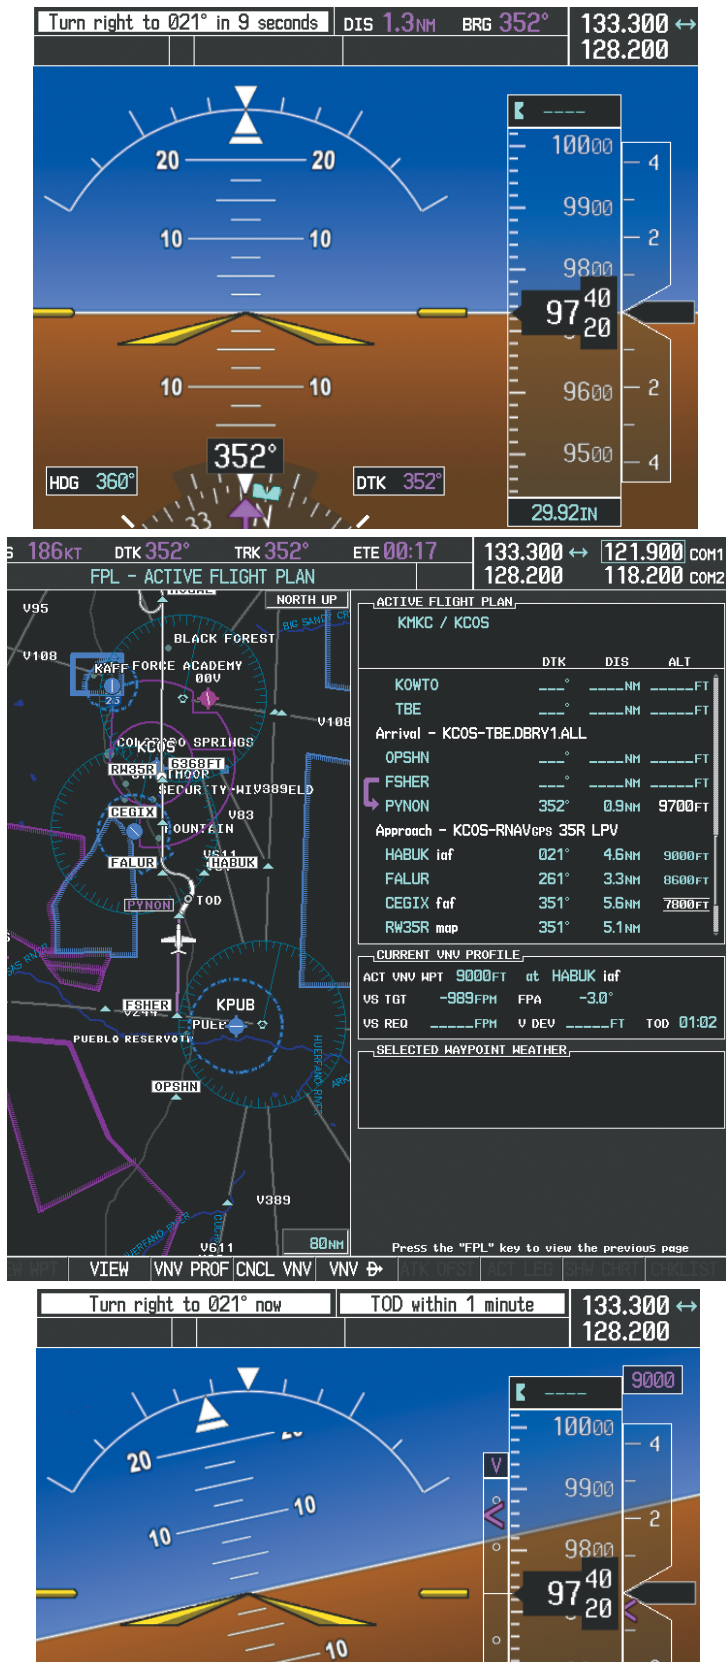

Figure 5-145 Approaching PYNON
- 20) The flight continues through the arrival procedure to PYNON (see Figure 5-145). At a point 31 nm from the destination airport, the phase of flight scaling for the CDI changes to Terminal Mode and is annunciated by displaying 'TERM' on the HSI.